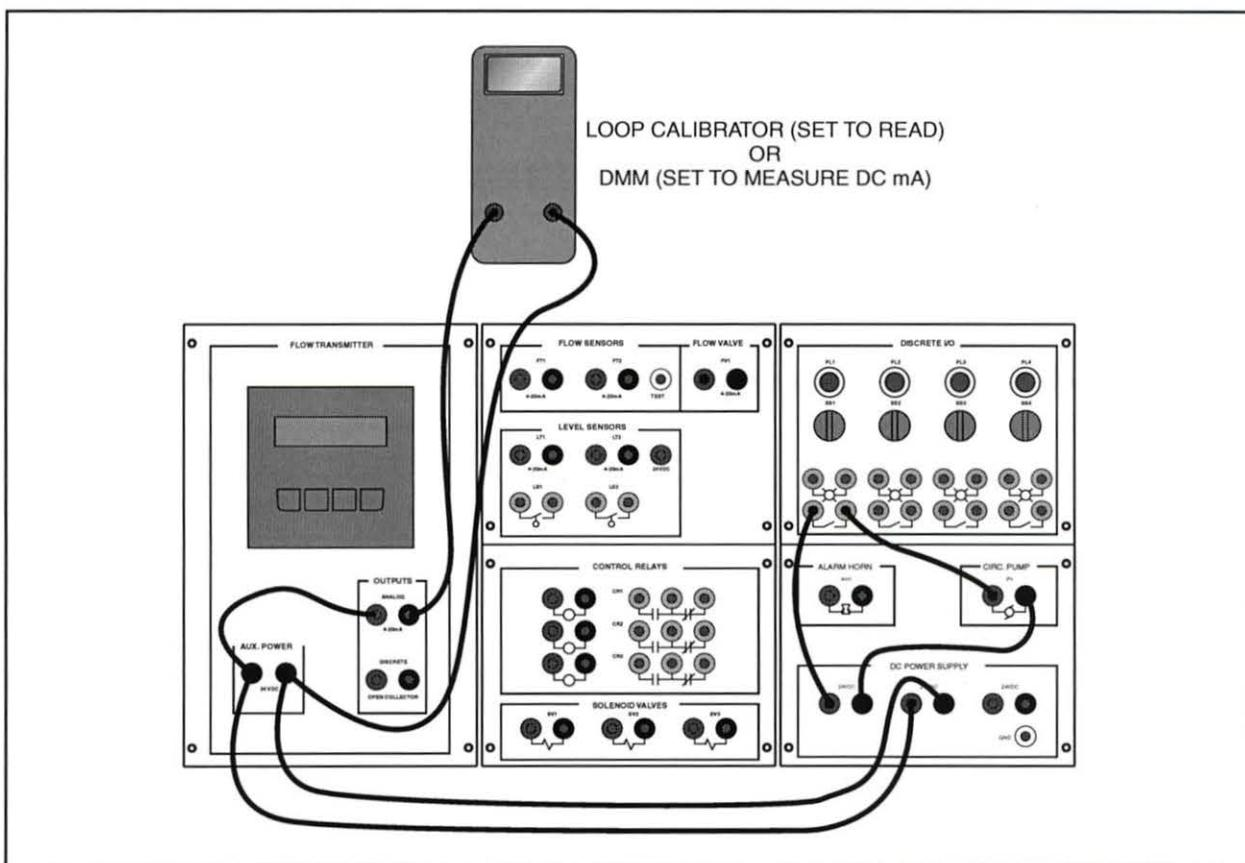

Figure 39. Circuit to Configure and Test the Digital Flow Transmitter
3. Connect the circuit shown in figure 39.
You need to connect a loop calibrator (set to the READ mode) or a multimeter (set to read DC mA) in the circuit, as figure 39 shows.